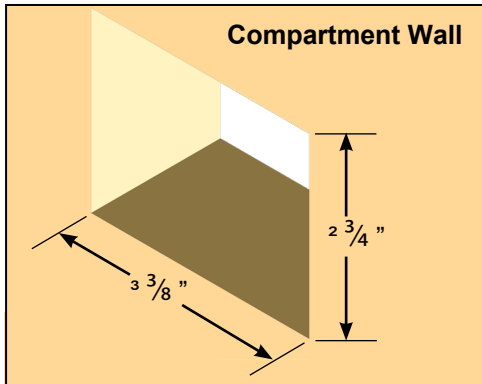

Fig. 23
3. Cut a hole in the wall of the compartment 3 $\frac{3}{8}$ " wide by 2 $\frac{3}{4}$ " high so the top and bottom horizontal cuts are parallel to the floor of the compartment (**Fig.23**).